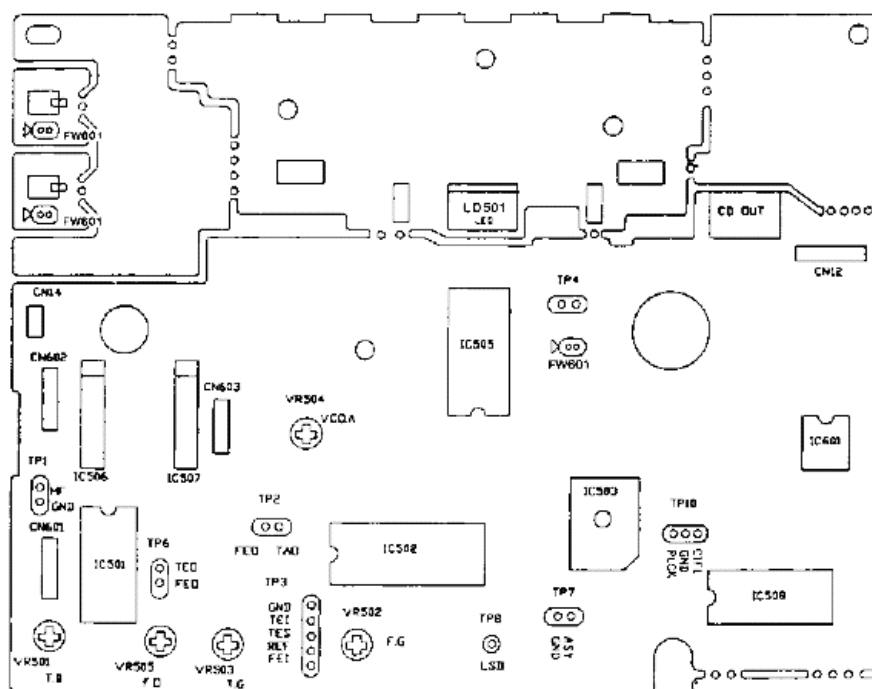

FIGURE 28-17 The test points and offset adjustment in the Realistic CD player.
- 2 Connect oscilloscope to TP1 (HF GND) (Fig. 28-17).